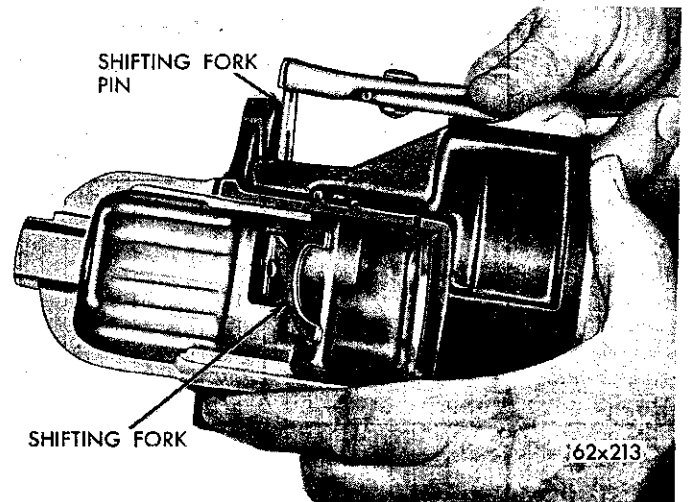

Fig. 16—Removing or Installing the Shifting Fork Pin
(26) Remove the shifting fork retainer pin (Fig. 16) and remove the clutch shifting fork assembly.
(1) Position the shifter fork in the drive housing and install the shifting fork retainer pin (Fig. 16). One tip of pin should be straight, the other tip should be bent at a 15 degree angle away from the housing. Fork and retainer pin should operate freely after bending the tip of pin.